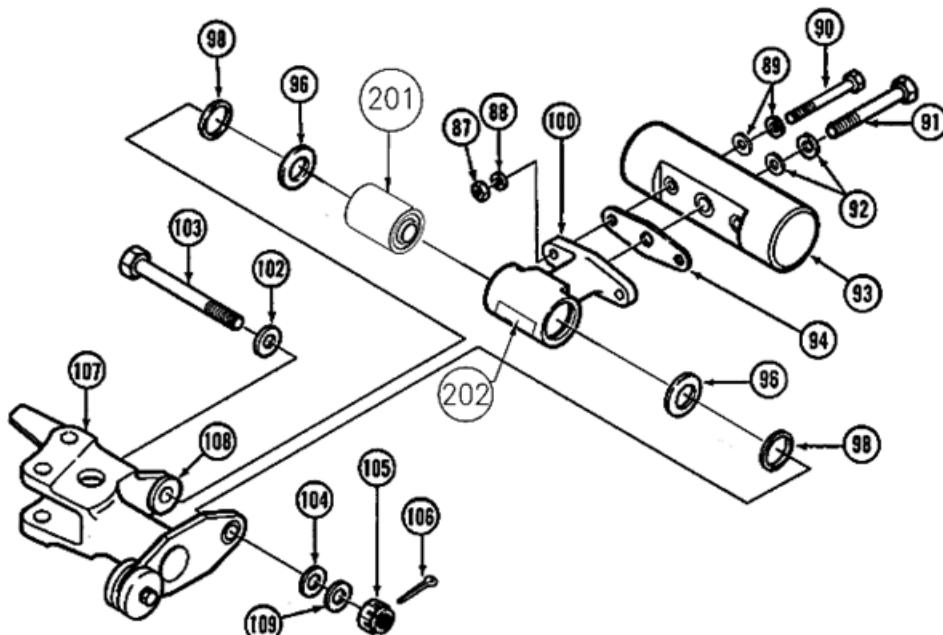

**Figure 1: Arm & Bearing Assembly (Exploded View)**
Figure 1 shows an exploded view of an exemplar type-certified Arm and Bearing Assembly from the Bell 412 CR&O manual. The Arm and Bearing Assemblies are sub-assemblies of the Main Rotor Hub. This STC requires alteration of all eight (8) Arm and Bearing Assemblies on the Main Rotor Hub.
For consistency with Figure 1, the nomenclature in this document for Item #100, PN 412-010-263-101 or later is "Arm."
Table 2 lists the items to be installed and the items to be removed from the Arm and Bearing Assembly. Other items in the Arm and Bearing Assembly (reference Figure 1) are unchanged.